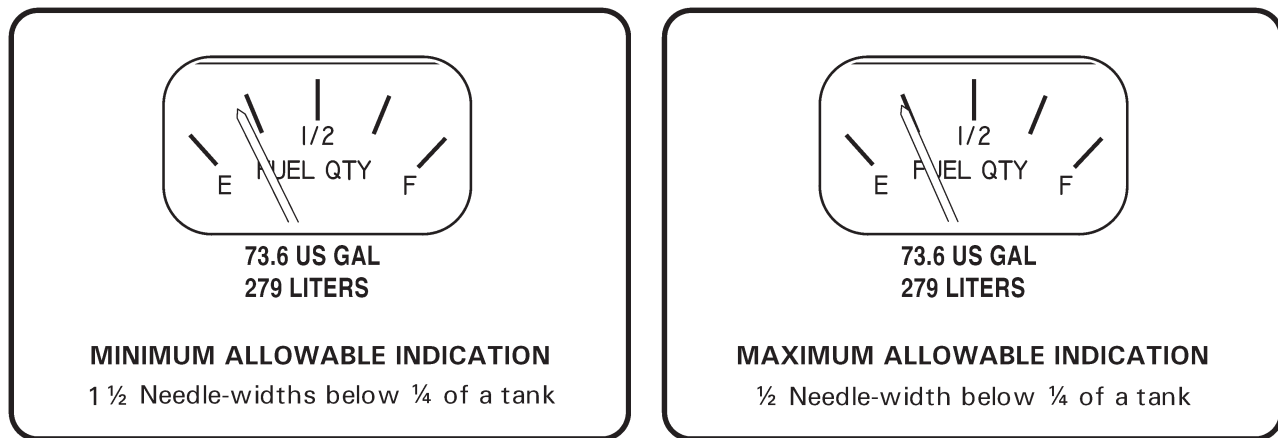

FIGURE 28-3 FUEL INDICATION CHECK
4. Refer to Figure 28-3. Push in (2 amp) GAGES circuit breaker at panel and turn battery switch on. (Press QUANTITY button on aux fuel control panel for aux tank quantity, displayed on fuel quantity gage.) Verify gage reads one-half needle width to one & one-half needle widths below one-quarter mark. If fuel gage indication is correct, proceed to step 6.